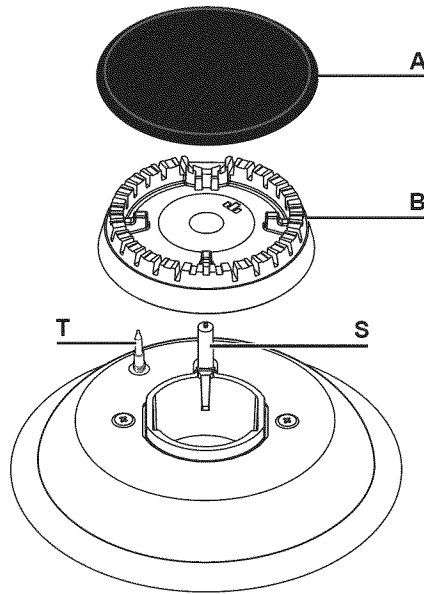

Fig. 5.1
- Check that the probe "T" (figs. 5.1, 5.3) next to each burner is always clean to ensure correct operation of the safety valves.
- Check that the electrode "S" (figs. 5.1, 5.3) is always clean to ensure trouble-free sparking.
It is very important to check that the burner flame spreader "B" and the cap "A" have been correctly positioned (see figs. 5.1 and 5.2 ). Failure to do so can cause serious problems.